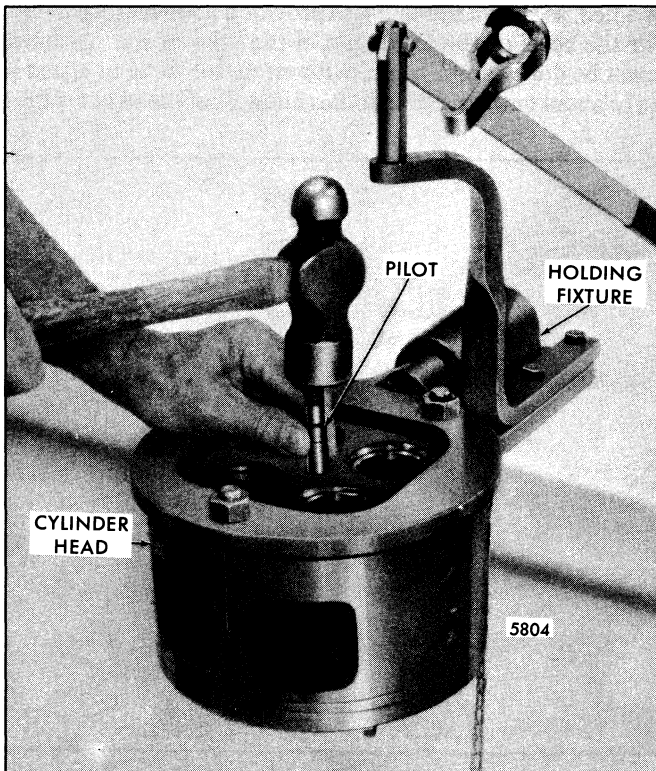

Fig. 1 - Removing Injector Tube
The bore in the cylinder head for the fuel injector is directly through the cylinder head water jacket as shown in Fig. 1. To prevent coolant from contacting the injector and still maintain maximum cooling of the injector, a tube is pressed into the injector bore. This tube is sealed at the top with a neoprene ring and upset into a flare on the lower side of the cylinder head to create water-tight joints at the top and bottom.
2. Place the injector tube installer J 22342-1 in the injector tube. Insert the pilot J 22342-3 through the small opening of the injector tube and thread the pilot into the tapped hole in the end of the installer (Fig. 1).